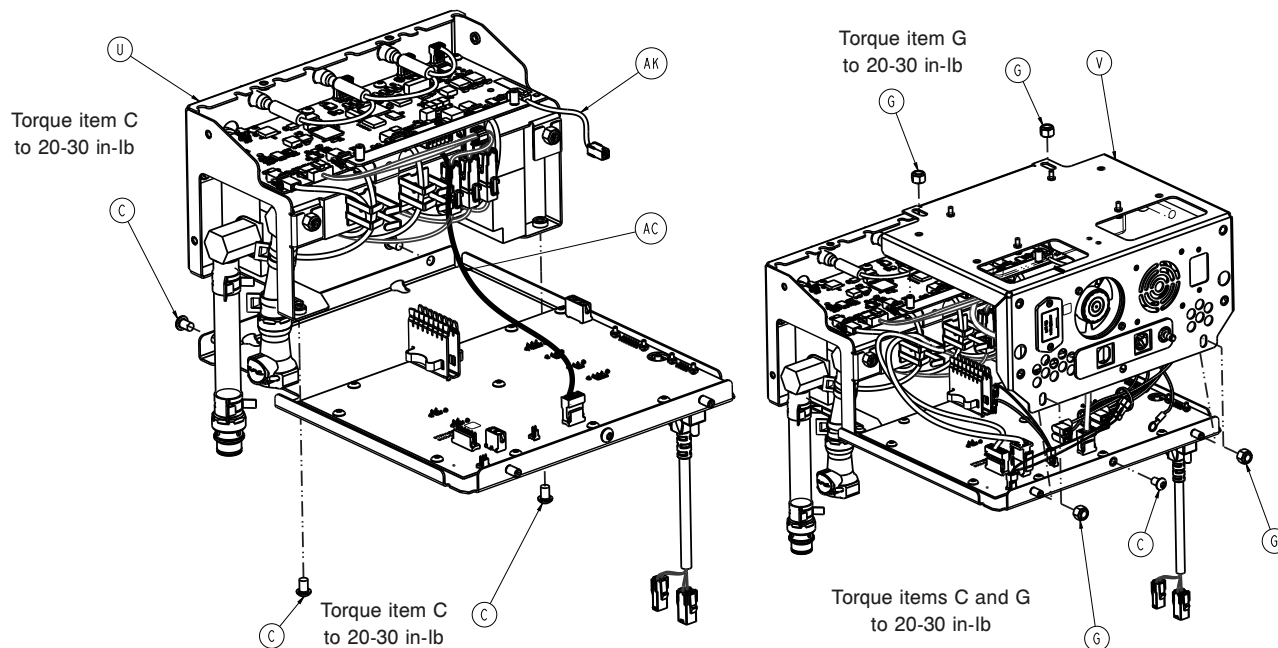

Figure 31: Power supply
- Using a 7/16" socket remove and save the four lock nuts (G) that secure the power supply mount to the control assembly (Figure 31 on page 45).
- Using a T27 torx, remove and save the screw (C) that secure the power supply mount to the control assembly (Figure 31 on page 45).